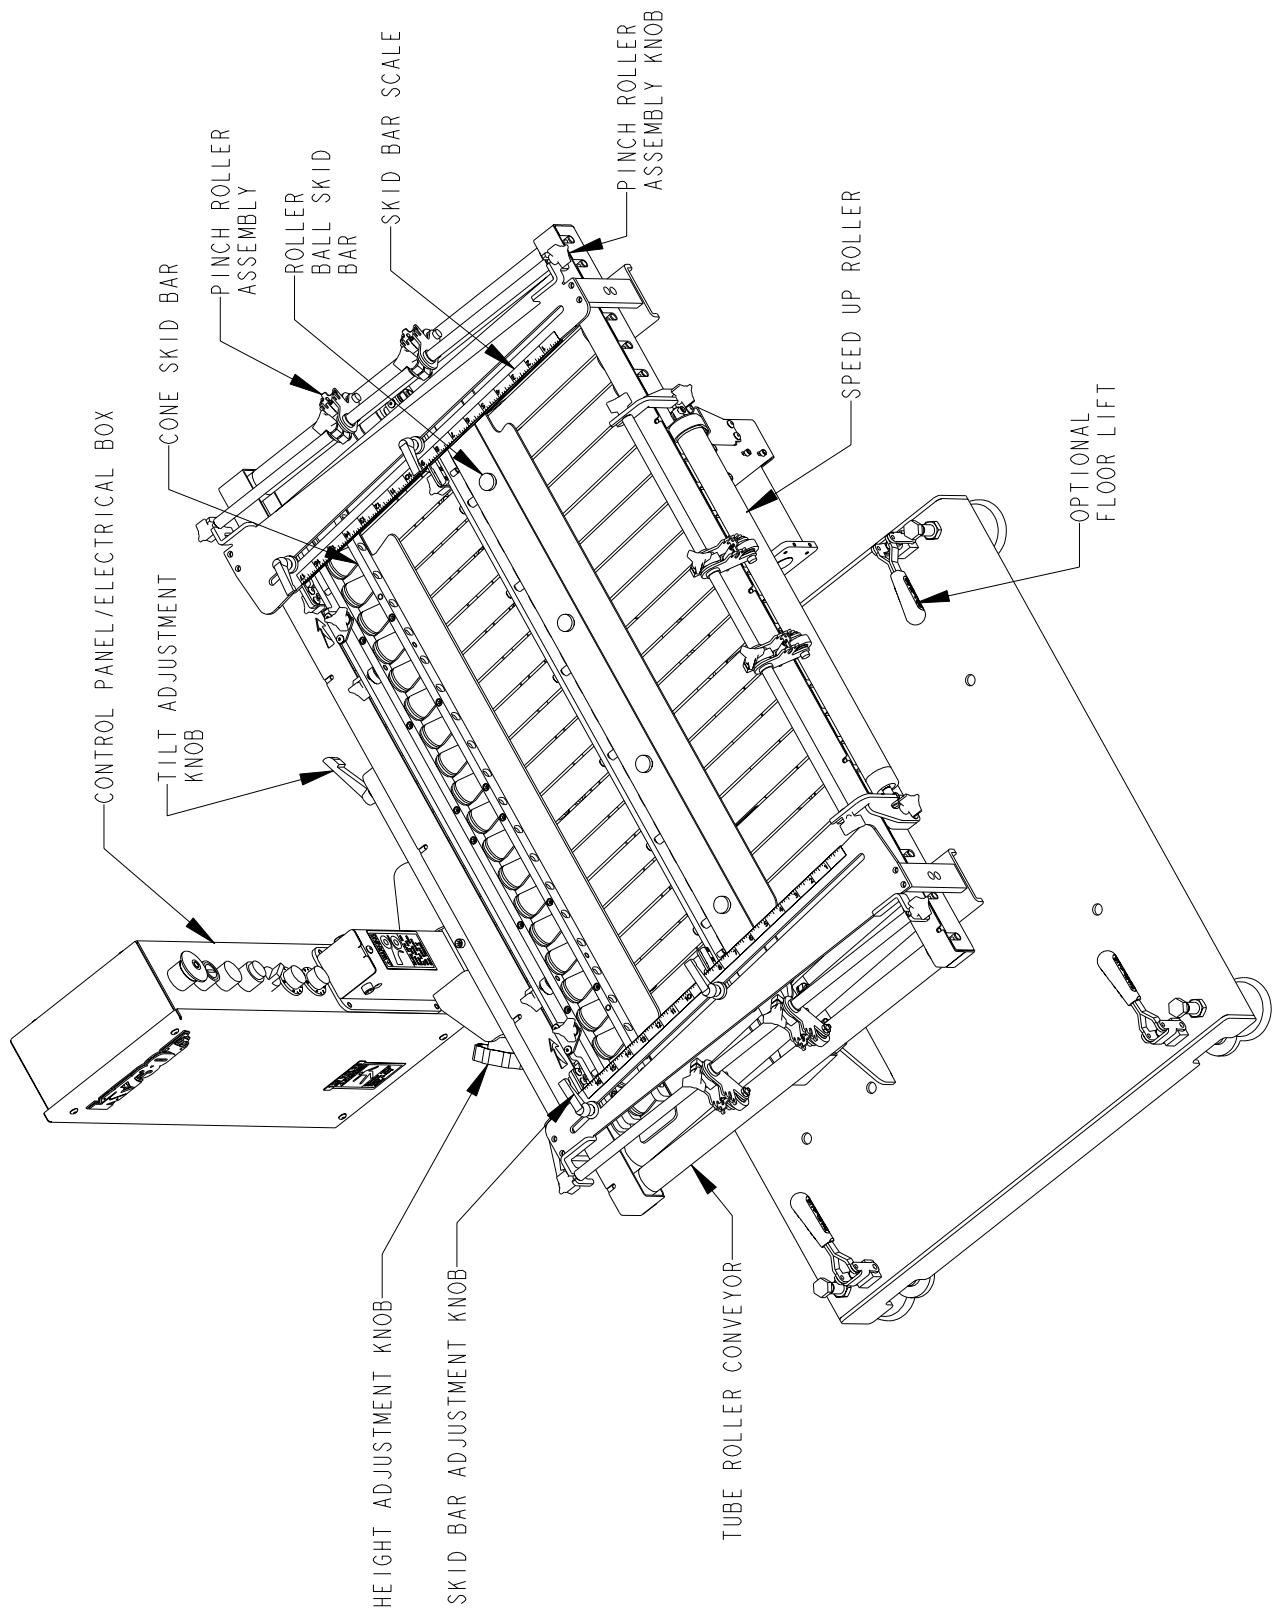

FIGURE 2.0
4.1 COMPONENT DESCRIPTION (see Figure 2.0 through 6.0)
4.1.1 Main Component Description (see Figure 2.0)
6. **Roller Ball Skid Bar Assembly:** The roller ball skid bar assembly (not shown in Figure 2.0) consists a product guide, a skid bar guide, and plastic or steel roller balls and is normally used as a registration guide for thinner products. The plastic roller balls are normally used when a lighter roller ball is needed to allow the product to get under the skid bar roller balls when fed from the side.